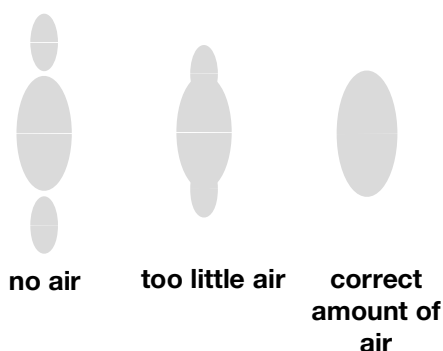

FIG. 7
- See FIG. 7. Set atomizing air pressure at about 5 psi (0.35 bar, 35 kPa) when triggered. Check spray pattern, then slowly increase air pressure until tails are completely atomized and pulled into spray pattern. Do not exceed 100 psi (0.7 MPa, 7 bar) air pressure to gun.